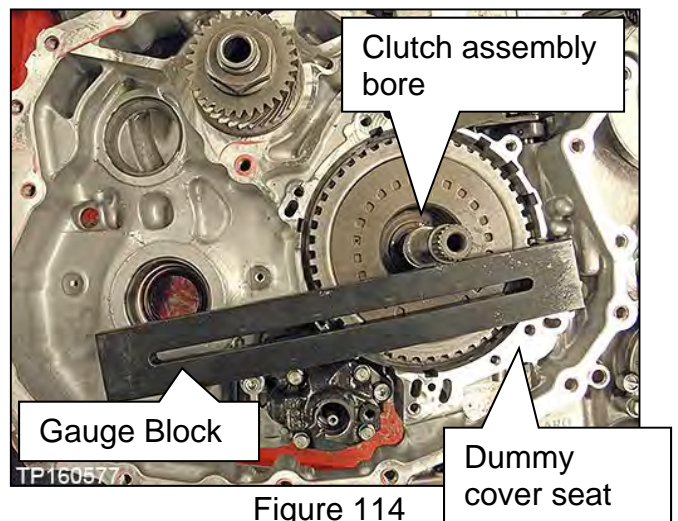

Figure 114
- a. Place the Gauge Block on the surface where the dummy cover seats and over the clutch assembly bore (Figure 114).